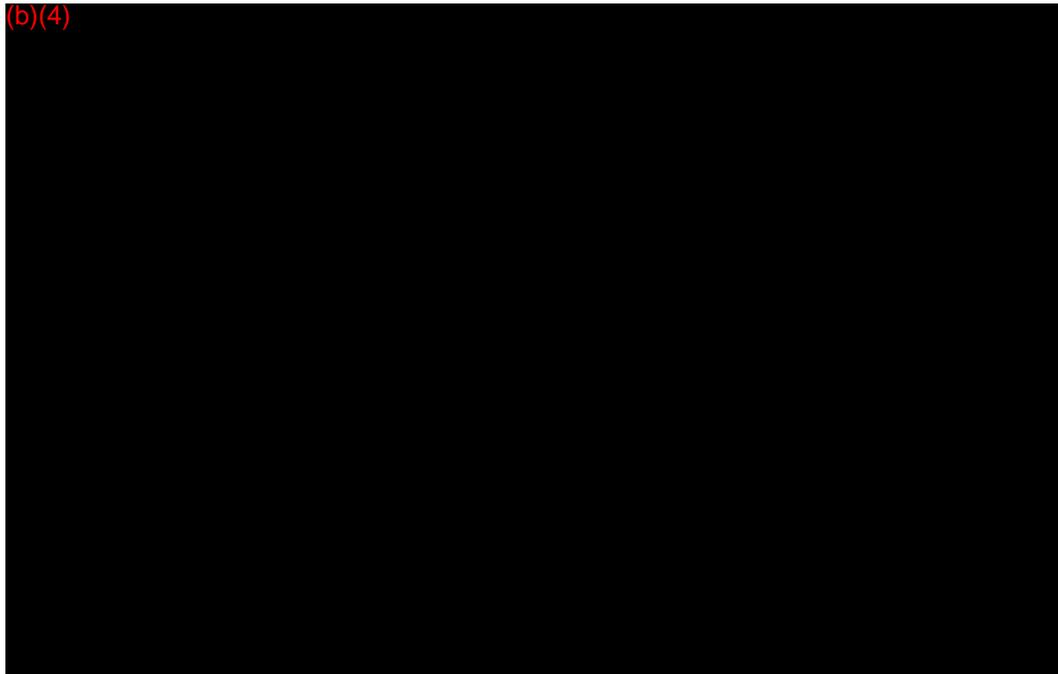

Figure 13 - Overall IQ scores for (b)(4)
The (b)(4) score for each case along with the minimum and maximum score (when they differ from the median score) are shown below in Figure 13. (b)(4)